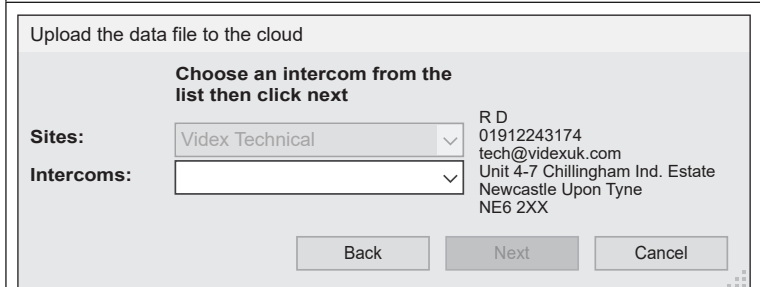

Fig. 108
5. Click on the **'NEXT'** button and the intercoms drop down list will appear (just below the sites drop down list), as shown in **Fig.108**.